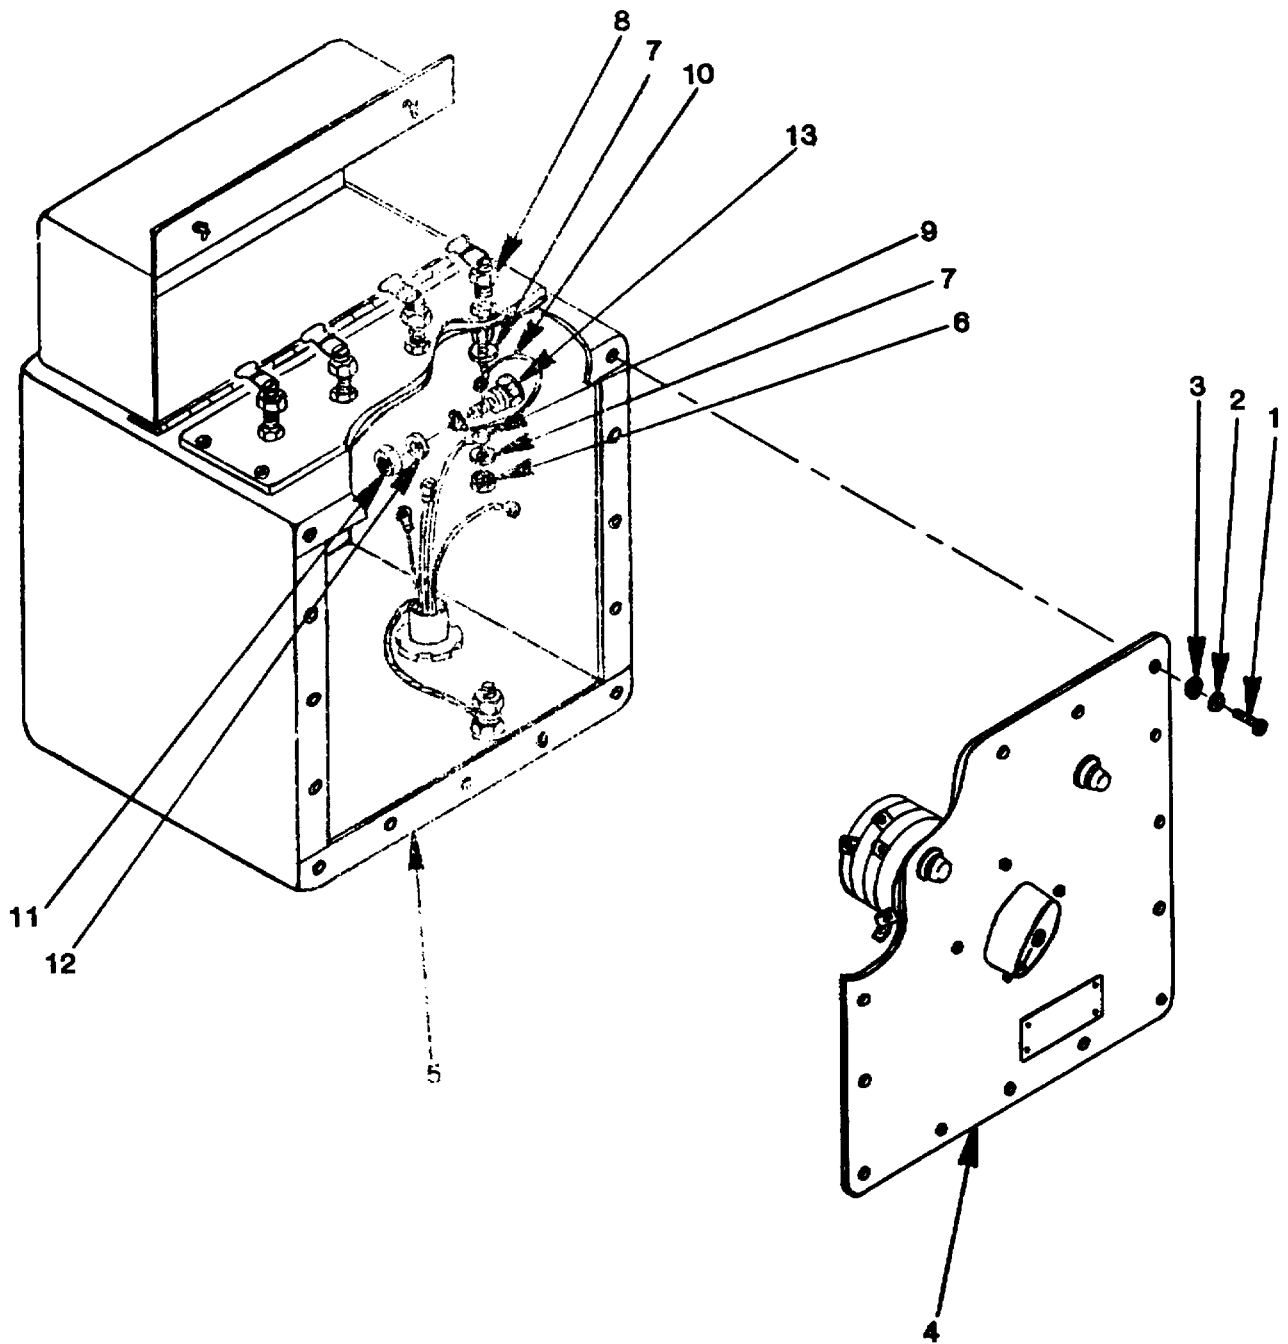

Figure 4-9. Switch Box Ground Wire Replacement.
- (b) Slide one lockwasher (7) and terminal lug (9) on load terminal stud (8) and secure with lockwasher (7) and nut (6).
- (c) Position cover (4) on switch box (5) and secure with 16 flat washers (3), lockwashers (2), and screws (1).
- (3) Removal (Ground Wire).
- (a) Remove 16 screws (1, figure 4-9), lockwashers (2) and flat washers (3) securing cover (4) to switch box (5) and take cover off switch box.
- (b) Remove nut (6) and lockwasher (7) from load terminal (8) LO inside switch box.
- (c) Slide power cable ground (white) wire terminals (9) and switch box ground wire (10) off load terminal (8) LO.
- (d) Remove remaining lockwasher (7) from load terminal.
- (e) Remove nut (11) and lockwasher (12) from AC GROUND terminal E2 (13) inside box. Remove ground wire (10).
- (1) Install switch box ground wire (10) on AC GROUND terminal E2 (13) and secure with lockwasher (12) and nut (11).
- (2) Install remaining end of ground wire (10) on load terminal (8) LO. Install power cable (white) wire terminals (9) on terminal LO and secure the three wires with lockwasher (7) and nut (6).
- (3) Position cover (4) on switch box (5) and secure with 16 flat washers (3), lockwashers (2) and screws (1).